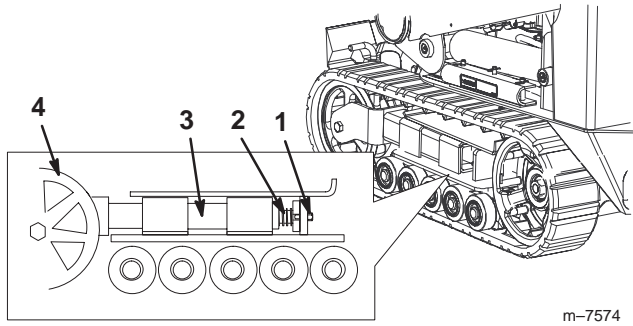

Figure 46
3. Remove the locking bolt and nut (Fig. 46).
5. Align the closest notch in the tension screw to the locking bolt hole and secure the screw with the locking bolt and nut (Fig. 46).
4. Using a 1/2 inch drive socket, release the drive tension by turning the tensioning screw clockwise (Fig. 46 and 47).